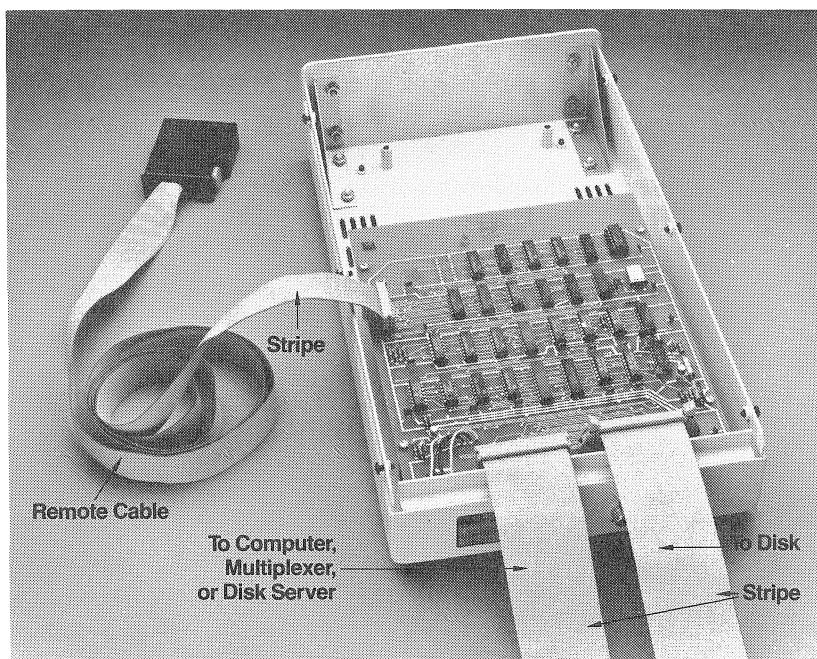

FIGURE 2.13 MIRROR WITH FLAT
6. If you ordered the Remote option, connect the Remote option flat cable as described below in the section titled 'Remote Option Cable' (see figure 2.13).